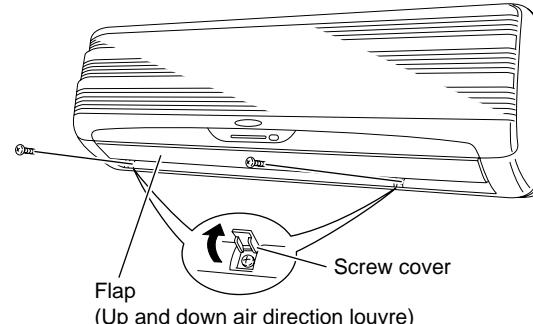

Fig. 14a
- (1) Set the flap in the horizontal position.
- (2) Unscrew the 2 screws. (Fig. 14a)